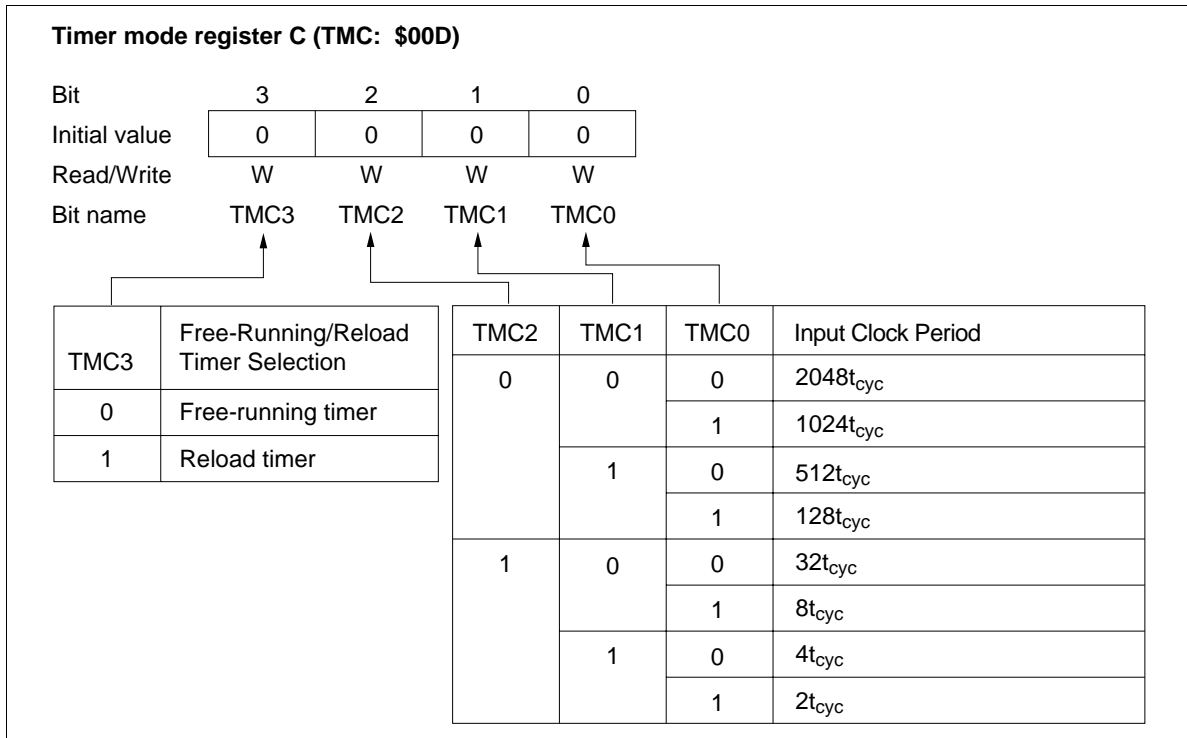

Figure 50 Timer Mode Register C (TMC)
- Timer mode register C (TMC: \$00D): Four-bit write-only register that selects the free-running/reload timer function, input clock source, and the prescaler division ratio as shown in figure 50. It is reset to \$0 by MCU reset.